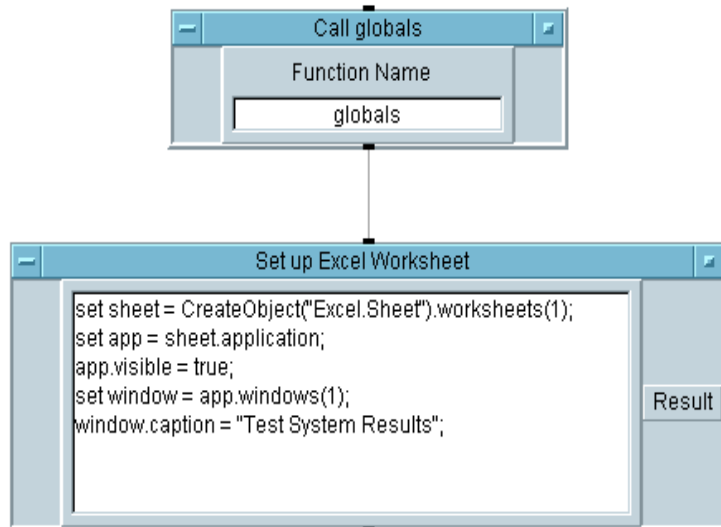

Figure 6-6. Setting Up the MS Excel Worksheet
8. Inside Set up Excel Worksheet, enter the lines shown in Figure 6-6. Notice that semicolons are used for line separators, just as in ANSI C.